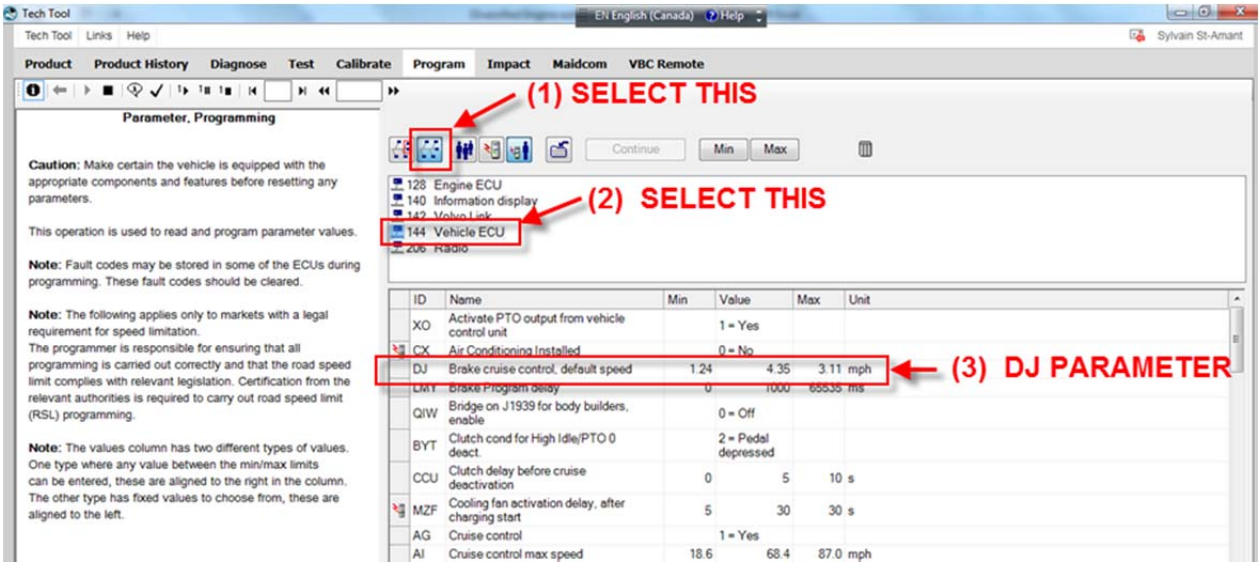

FIGURE 32
4. Select the icon shown at step (1) on FIGURE 32. Select the proper MID number which is **144 Vehicle ECU** (see step 2). Proper MID number is. locate DJ parameter in the list below (step 3).